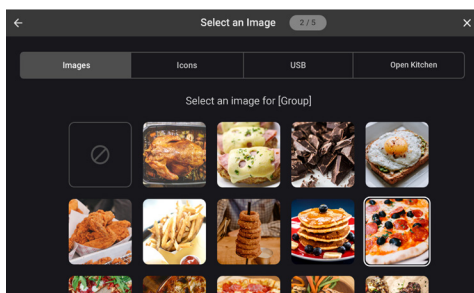

Figure 33: Select Image for New Recipe
7. Select an image and touch the blue “Next” button (Figure 33, below).